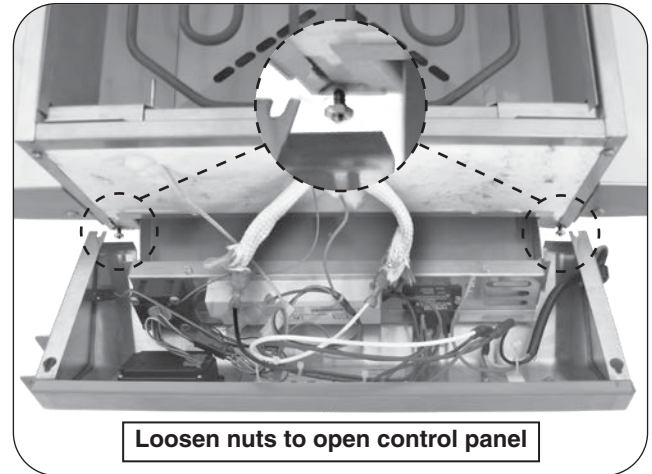

Fig. 24-1 Remove control panel
4. Loosen the nuts underneath the control panel with a 11/32" wrench, then lift the panel until it is freed from the screws. Carefully rest the panel on the drip tray. Reference Fig. 24-1.